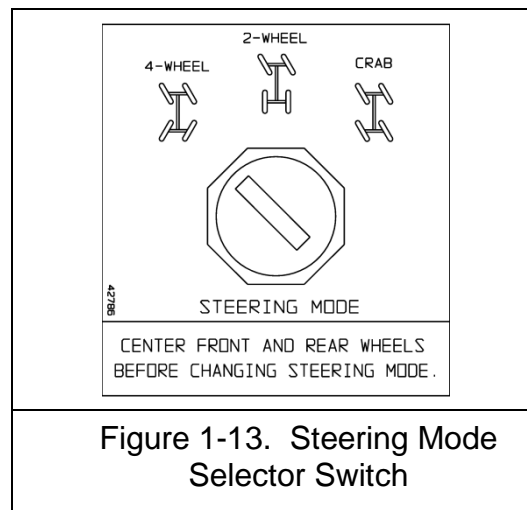

Figure 1-13. Steering Mode Selector Switch
7. Position selector valve switch, located to the right of the instrument panel to select the desired steering mode. See Figure 1-13. **NOTE:** Position wheels straight ahead before selecting steering mode.
See Figure 1-10 and Figure 1-13.